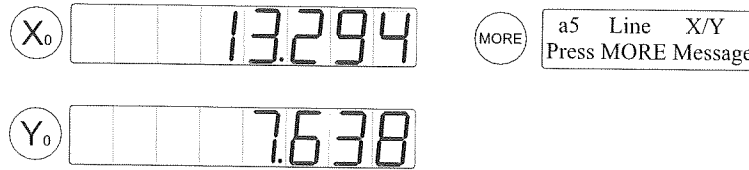

Figure 2-75
- d. Press the  or  key until the displays the feature a5's message as in figure 2-75 press the